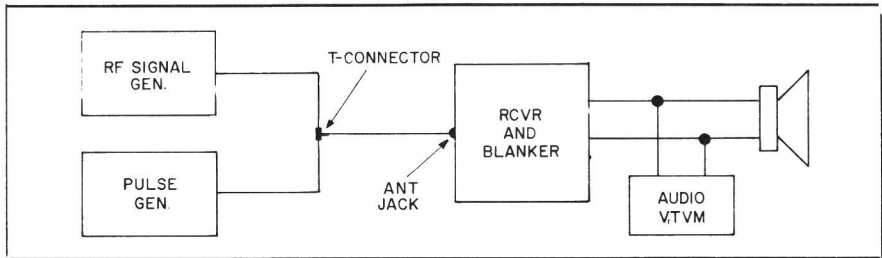

Figure 1 - Equipment Connection Diagram
1. Connect Pulse Generator and RF Signal Generator to receiver antenna jack through a T-connector and connect VTVM to receiver output as shown in Figure 1.